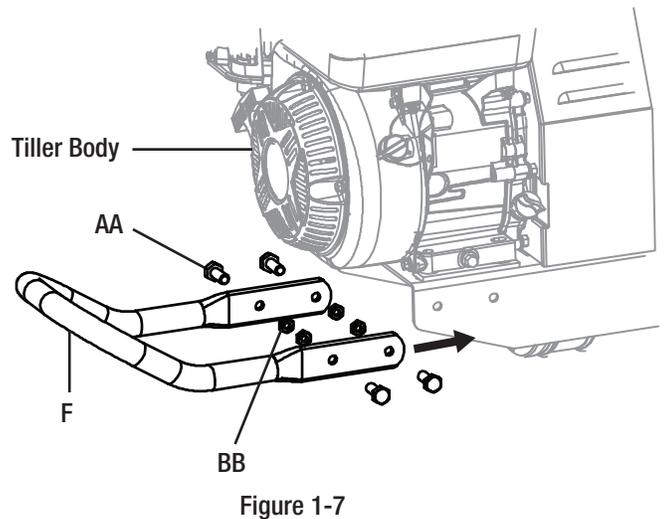

Figure 1-7
- Insert the bumper (F) into the front end of the tiller body just below the engine. Align the pre-drilled holes and insert M8x20 bolts (AA) and M8 nuts (BB) and tighten. See Figure 1-7.